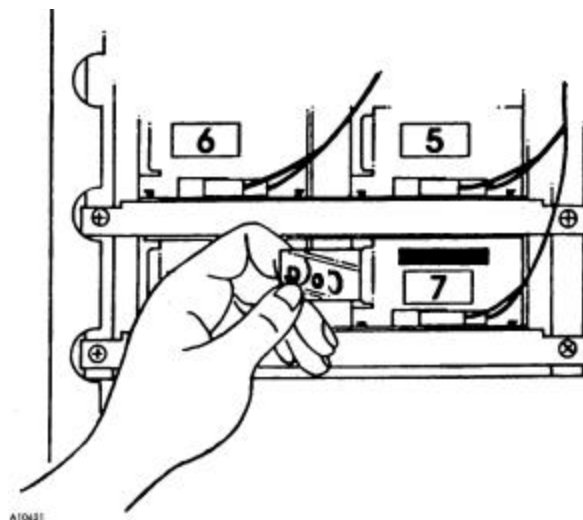

Figure 6. Selection Identification Labels
3. Insert the Selection Label into the pocket provided as shown in **Figure 6.** Make sure the label agrees with the product loaded in the serpentine column.